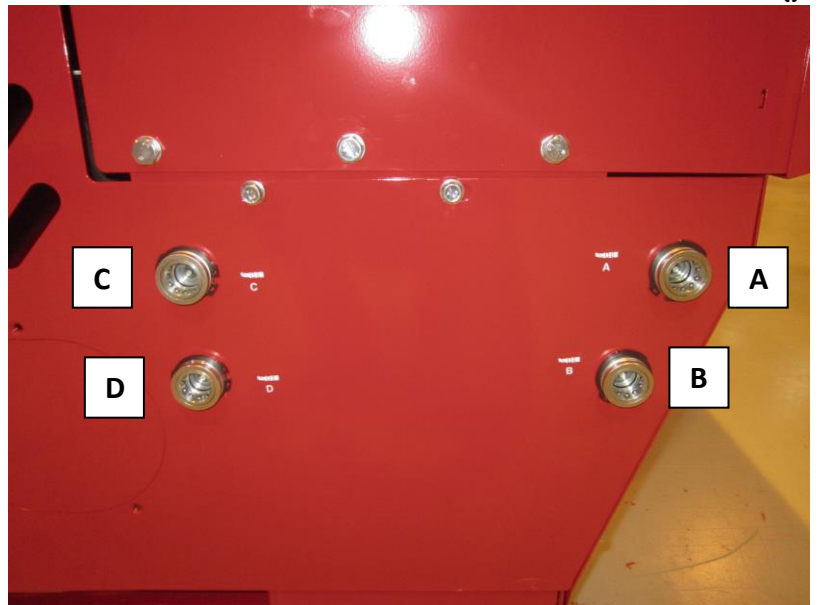
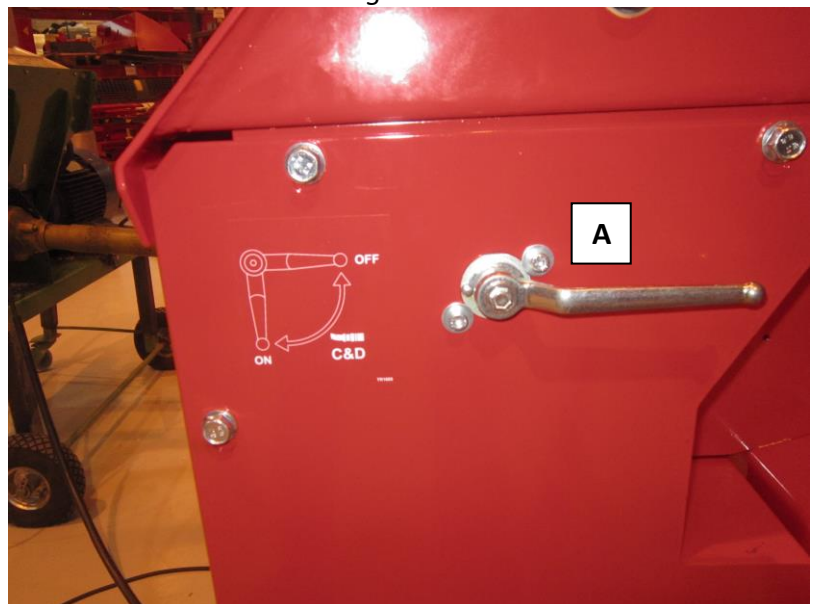

Figure 20.
Figure 21.
Connect the additional hydraulics (for example Connect the additional hydraulics (for example when using the WoodLift 381 log hoist) by pushing the hydraulic hoses of the auxiliary device to quick couplings C and D (please see Figure 20 in Section 4.3.4).
1. Connect the hoses of the auxiliary rollers to quick couplings C and D in the Figure 20.
3. Turn ON the cock A in Figure 21 with the handle B, which allows oil to flow to the quick couplings shown in Figure 20.
**Note! Cock A must be closed (as in Figure 21) whenever the quick couplings C and D in Figure 20 are not in use!**